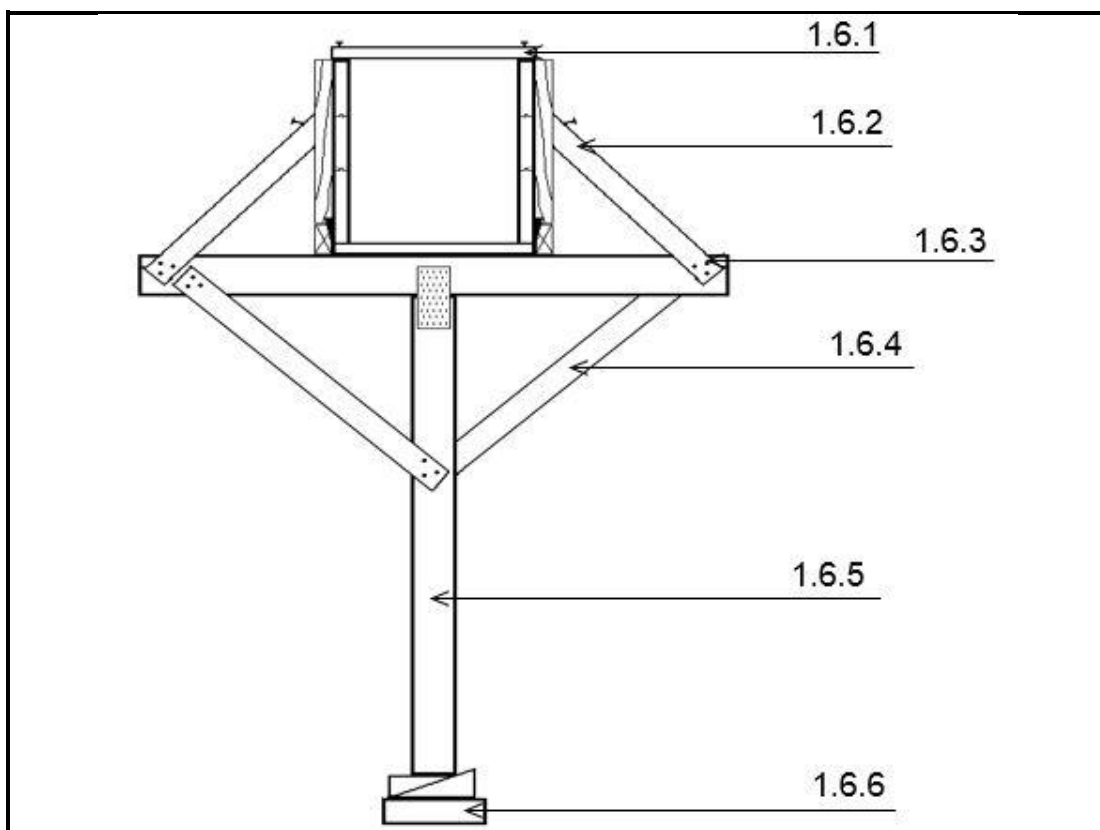

FIGURE 1.6
- 1.6 Identify the parts 1.6.1 to 1.6.6 of the formwork in FIGURE 1.6. (6 x 1) (6)